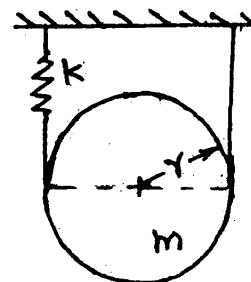

Fig.Q.2(c).
- c. A homogeneous cylinder of mass ' $m$ ' and radius ' $r$ ' is suspended by a spring and an inextensible cord as shown in Fig.Q.2(c). Obtain the equation of motion and find the natural frequency of vibration of the cylinder. (08 Marks)